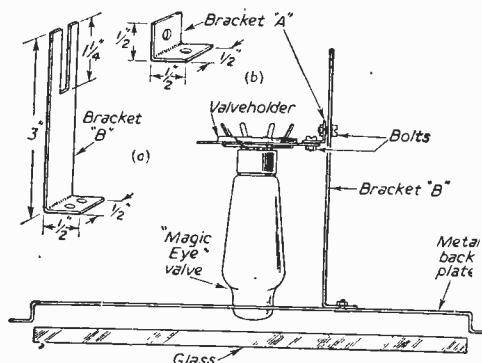

Fig. 3.—Details of the mounting of the magic eye tuning indicator.
Behind the glass was mounted a metal back plate and this was drilled so that the end of the magic eye could protrude through it (see Fig 3). A short length of metal was then formed into the shape in Fig. 3(a), and another small bracket (b) was made to hold the valveholder. The slot in (B) was $\frac{1}{2}$ inch wide and was made so that the valveholder could be slid backwards and forwards and thus enable the magic eye to be fitted in the best position.
ONE or two readers have asked for details of the type of correction which is provided in the design of this particular amplifier. The L.P. correction will suit any type of uncorrected pick-up crystal, balanced armature or moving-coil. The only proviso (see first paragraph on page 101 of the February issue) is that for full amplifier output the pick-up must have an output on average recordings of more than .06 volts RMS, and if more than .5 volt must be suitably attenuated to below that figure. If the pick-up is already corrected for L.P. (see the maker's literature), then it is permissible to omit C10, R14, C1, S2 and S3 from Fig. 3 of the February issue, or leave them in against future requirements and use the 78 switch position for both 78 and L.P.